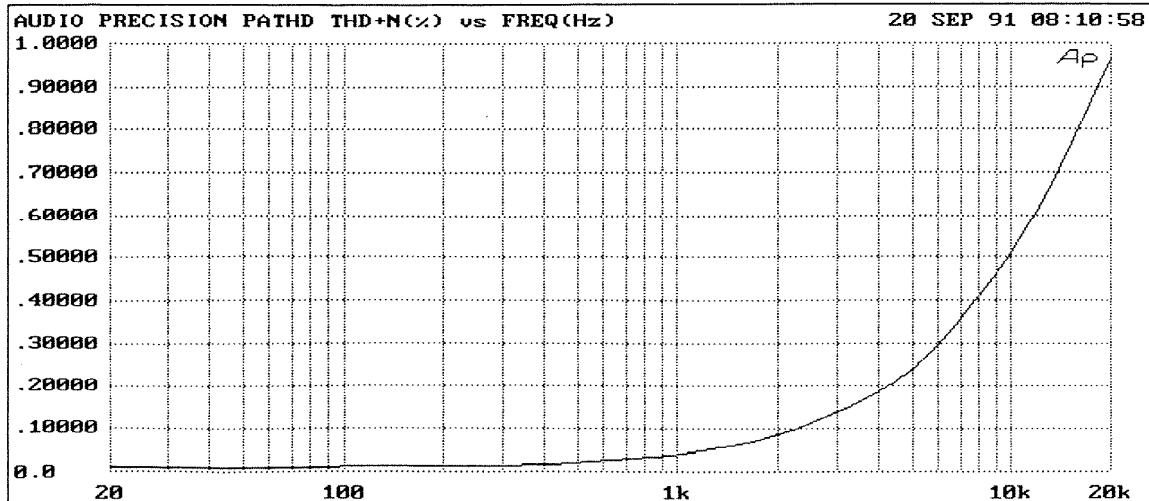

Figure 5: THD vs. Frequency at full power (575W/8Ω)
- 1) Distortion at 575 watts per channel should be less than 0.5% (see Figure 5).